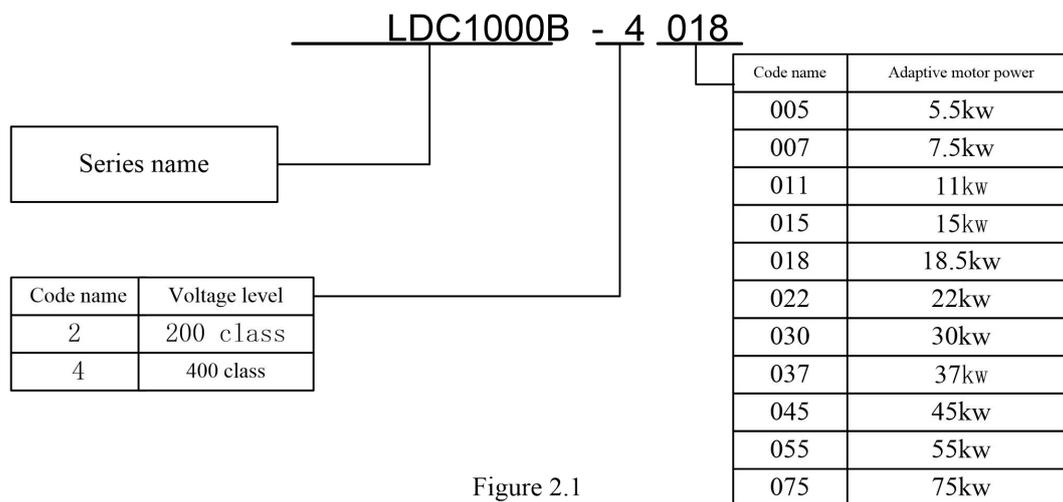

Figure 2.1
2.1.1 The model naming rules of LDC1000B series elevator integrated drive controllers are shown in figure 2.1: